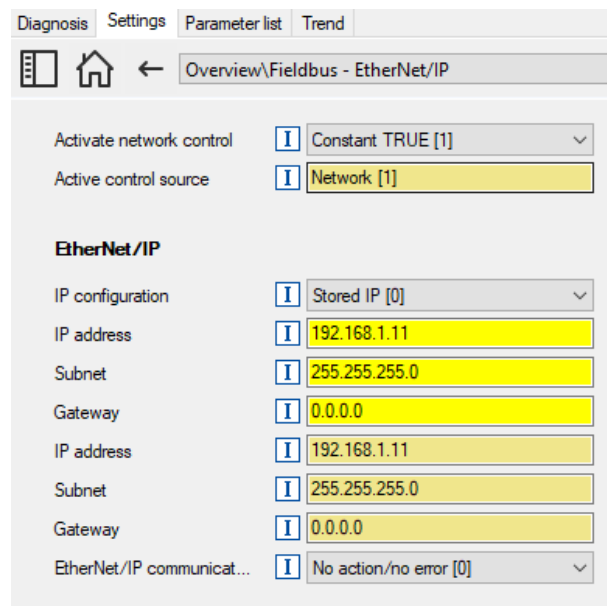

Figure 41: Activate Network Control
- 4) Finally, make sure in Easy Starter in *Settings* under *Overview\Fieldbus – EtherNet/IP*, that the IP address is correct, that the *IP configuration* is set to *Stored IP [0]* and that *Activate network control* is set to *Constant TRUE [1]* (Figure 41).